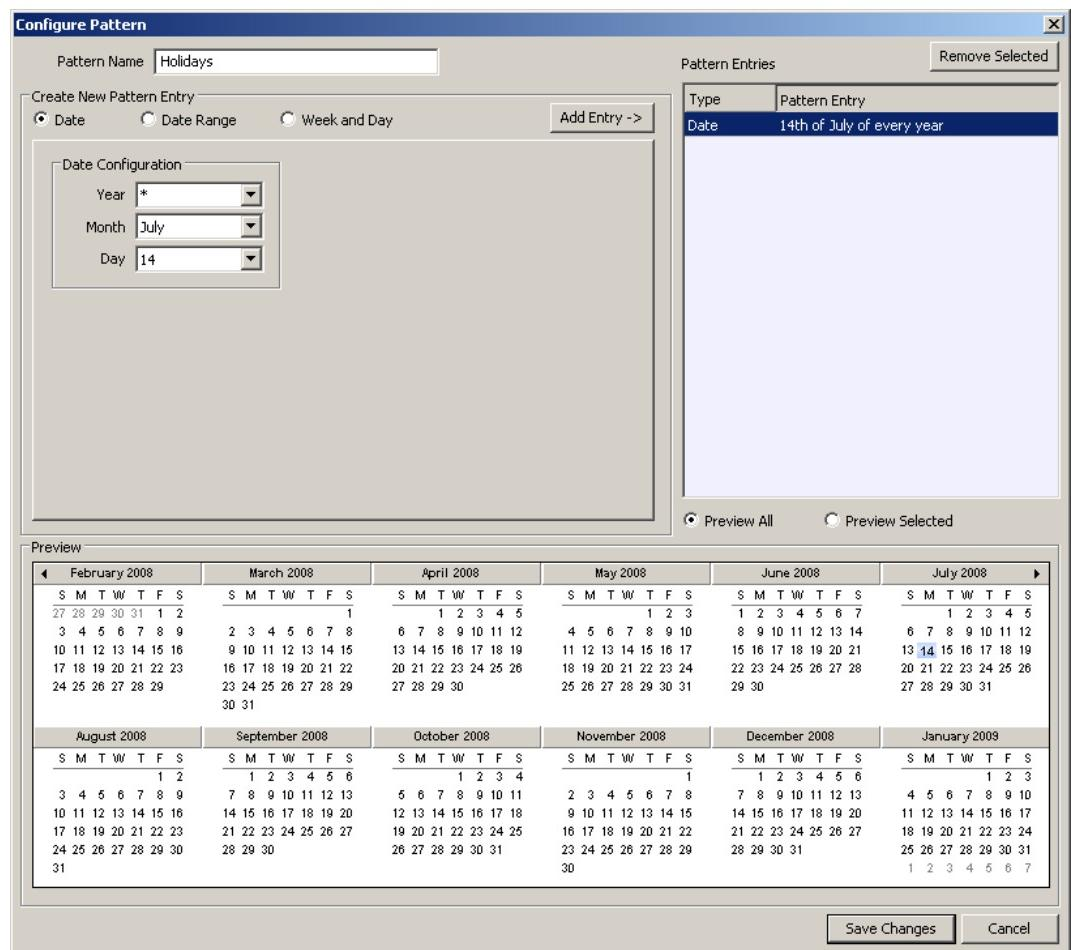

Figure 121: Configure Calendar Pattern Dialog.
4. The **Configure Pattern** dialog appears as shown in Figure 121. Add dates to the calendar pattern by entering a Date Configuration. Then click **Add Entry**. The date appears in the **Pattern Entries** list on the right-hand side.